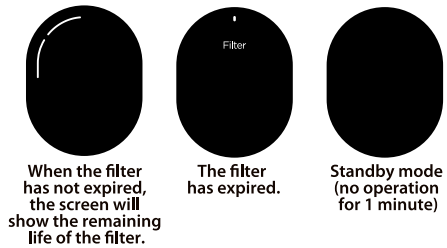

Figure 2
2. The faucet is turned off: When the RO system is powered on, the screen will show the filter's status. If there is no operation for 1 minute, the screen will switch to standby mode (Fig. 2).